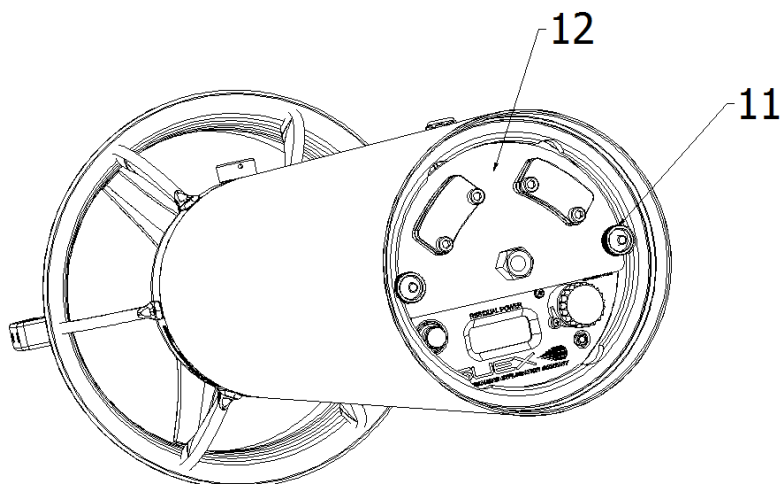

Figure 2
After removing the nosecone, put the ADV in a vertical position, unscrew the ring nuts (11), remove the plate (12) and the drop-trap (12a), unscrew the ring nuts (11a) (see fig. 2) and extract the battery (14) pulling it upwards off the rods (13), at the end disconnect the red connector (15) avoiding to pull the wires. (see fig. 2 and 3).